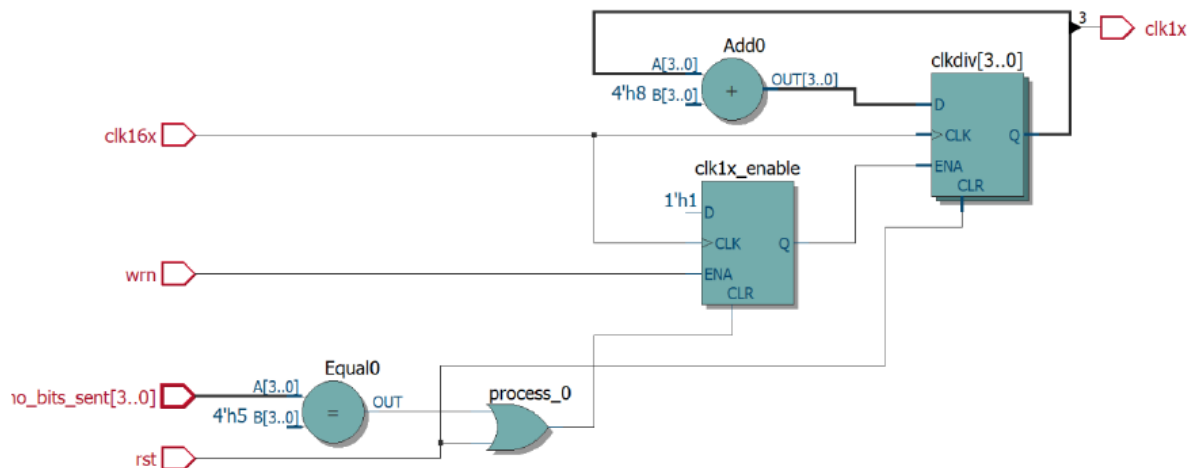

Figure 2: RTL level of transmission clock management
The objective of the first two processes is the management of the transmission clock. Figure 2 shows the generated RTL (Register Transfer Level) by these two processes.
- 1- For figures 2, 3 and 4, write the algorithms to calculate the outputs as functions of the inputs.